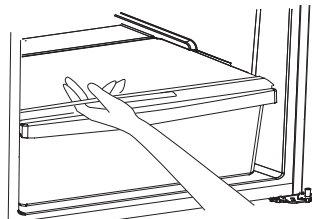

Fig. 9
1. Carefully grasp the crisper cover and slide out to remove. (Fig. 9)